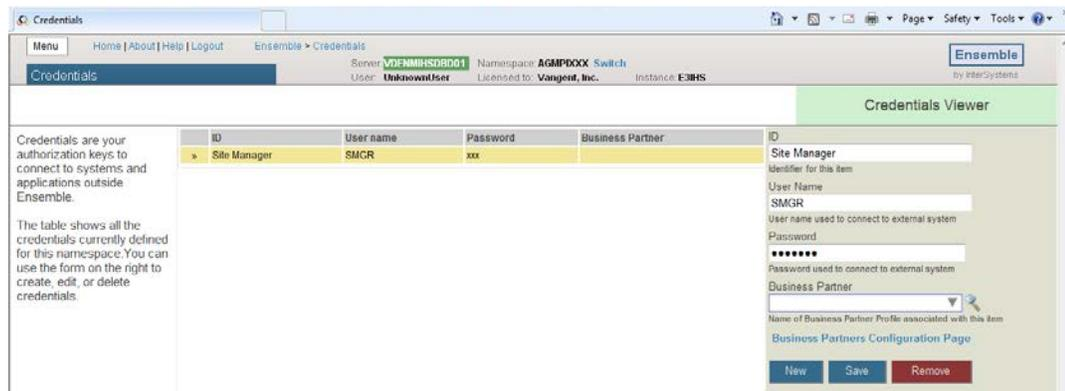

Figure 5-30: Newly created credential in the Credentials page
6. Click **Save**. The top pane will display the newly created ID and username, as shown in Figure 5-30.